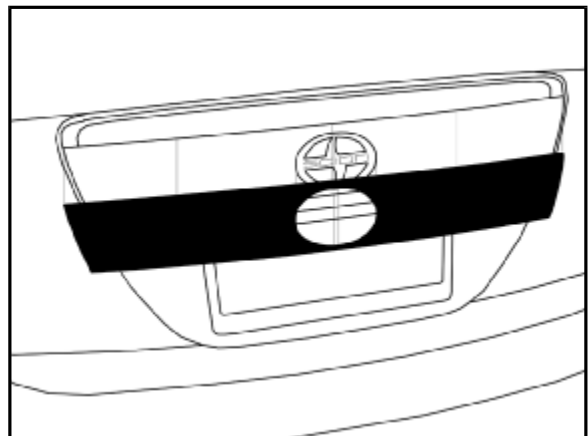

Fig. E1
- B. Align part uniformly to edge of factory components. Edge of appliqué should be flush to edge of factory component, ±1.0mm. (Fig. E1).